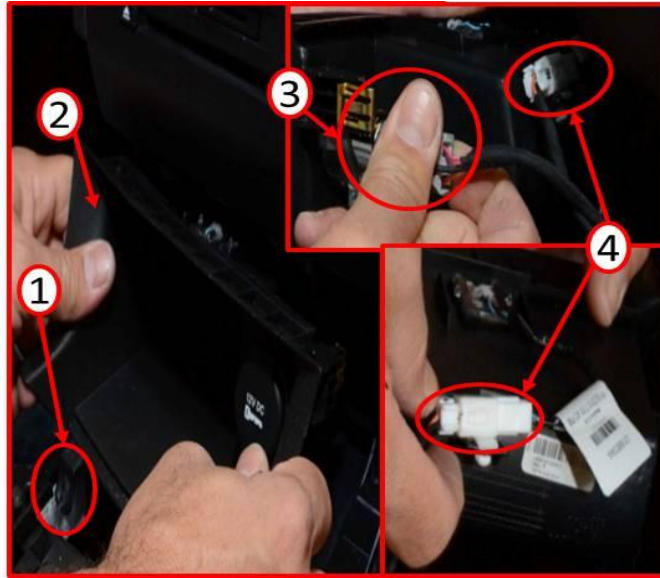

Fig. 4 Console Storage Bin Removal
- 5. Remove the two screws securing the storage bin retaining tabs (1) to the front console (Fig. 4).
- 6. Disconnect the 12V power outlet wiring harness (3) from the rear of the storage bin (Fig. 4).
- 7. Disconnect the LED/Lamp wiring harness (4) from the rear of the storage bin and remove the storage bin (Fig. 4).